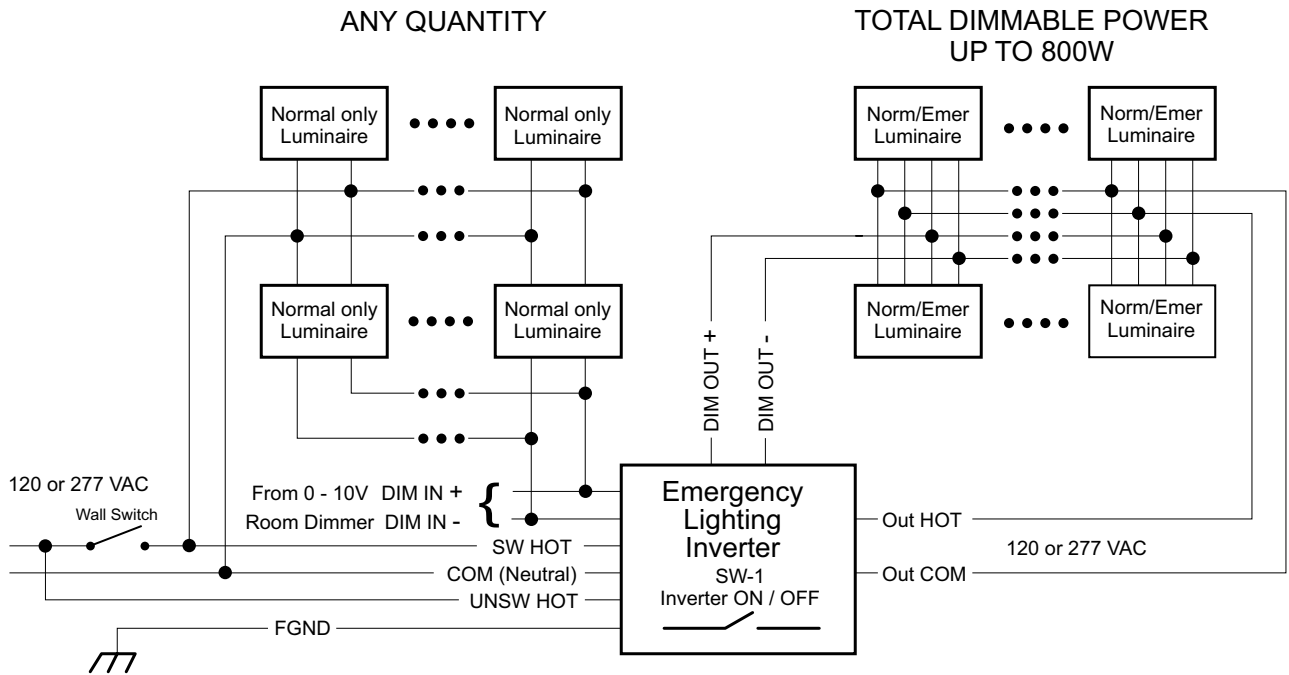

FIGURE W1
**Figure W1**, above shows an example of a branch circuit powering a number of dimmable luminaires, 4 (or more) of which are powered through an Emergency Lighting Inverter. During normal AC power mode, the power from the switched hot Lighting power and 0-10V room-dimmer voltage is passed through the Emergency Lighting Inverter to the “Normal/Emergency” fixtures. The **unswitched** hot charges the battery. During a power failure, the Emergency Lighting Inverter powers the “Normal/Emergency” fixtures for a minimum of 90 minutes, at a power level set by the Emergency Lighting Inverter’s dimming output circuit. In any example, the **dimmable** “Normal/Emergency” luminaires are automatically limited to **only** draw a total maximum of 250W Watts from the Emergency Lighting Inverter during an emergency event.